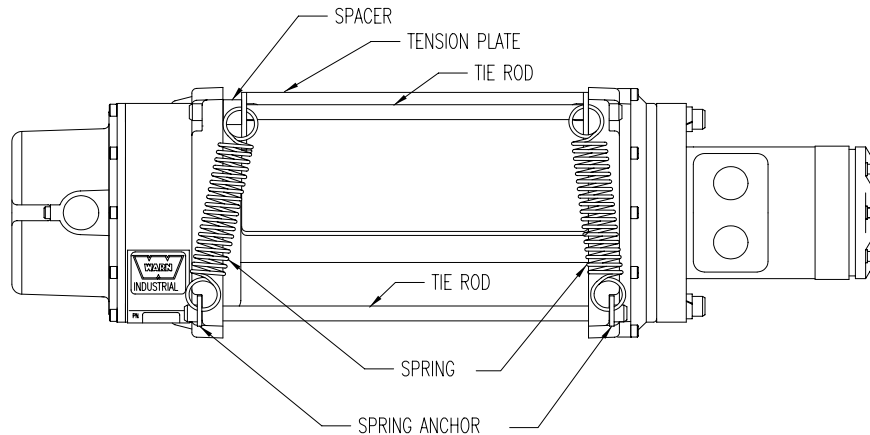

FIGURE 1
1. Remove the two capscrews holding one tie rod and slip tie rod through the tensioner kit parts as shown in **FIGURE 1**. Be sure to place the spacer on the side of the drum to which the wire rope attaches.